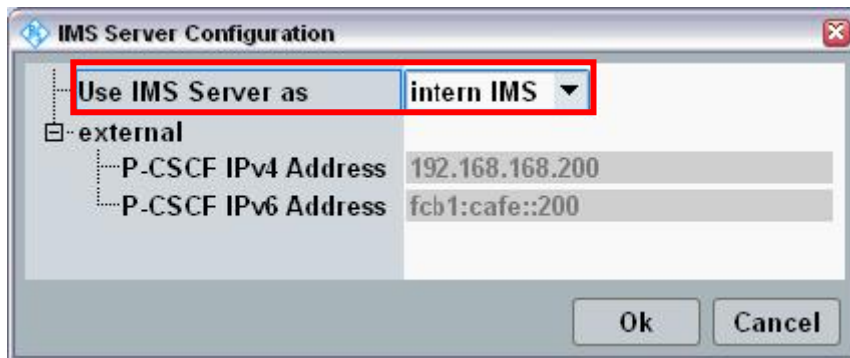

Figure 21: IMS Config
6. Set the IMS server to *intern IMS* (Figure 21).